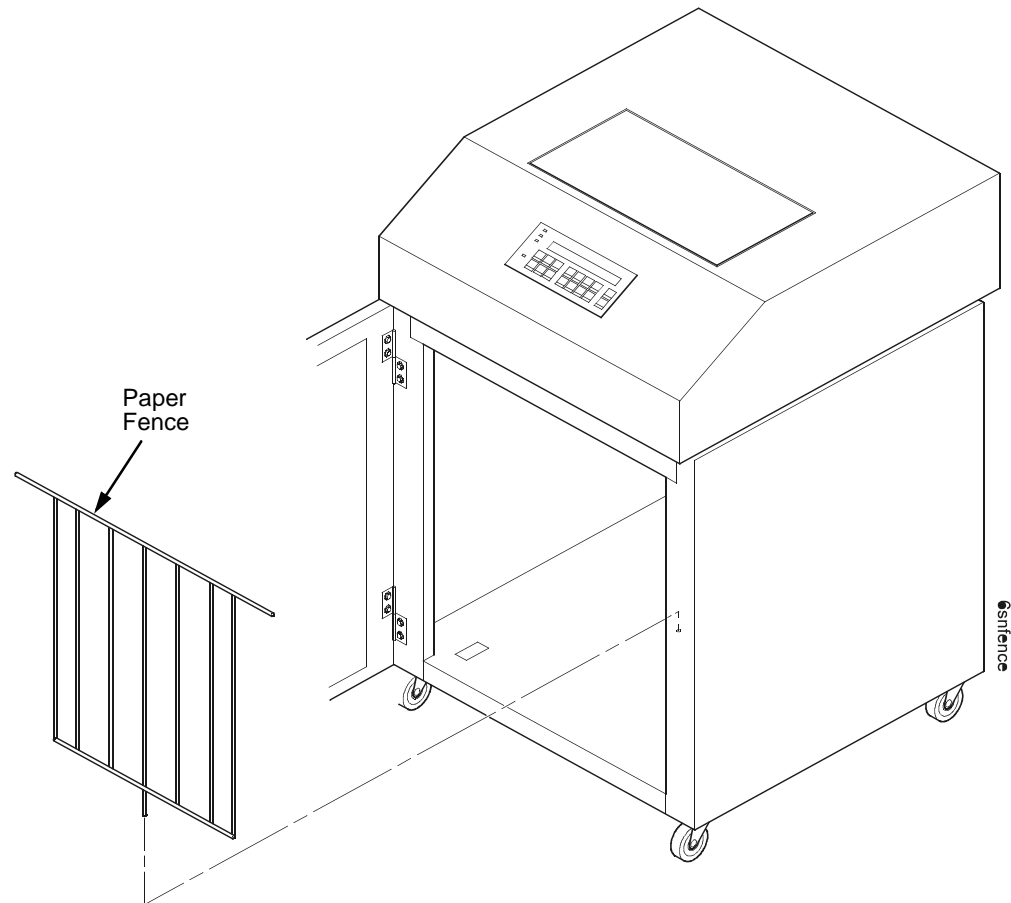

Figure 96. This figure shows how to install the paper fence in the cabinet.
38. Install the paper fence. (Figure 96.)